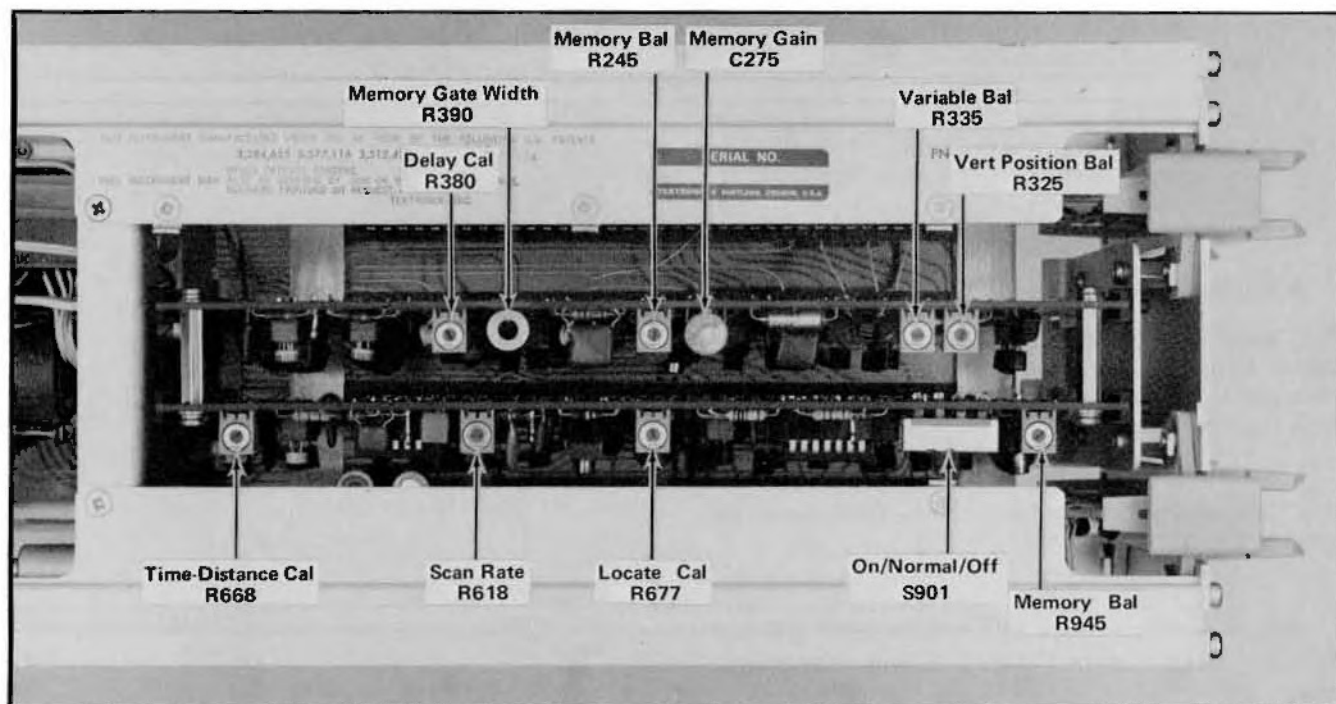
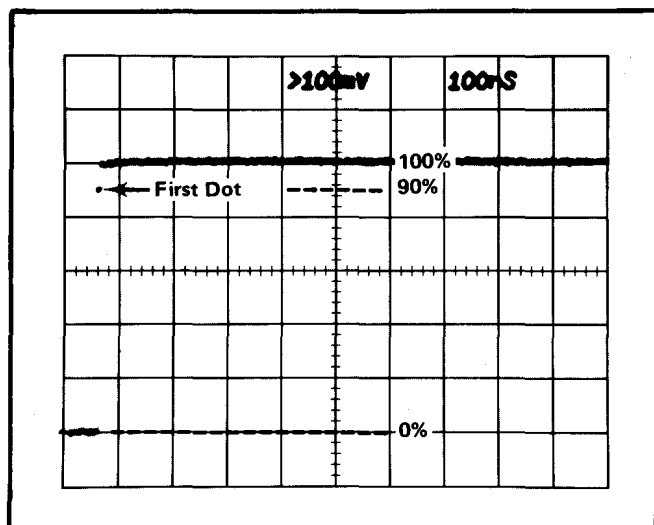
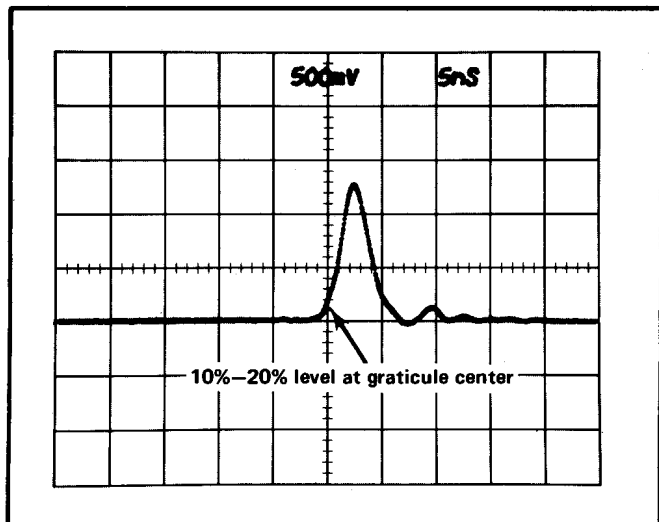

Fig. 5-11. Control locations on the Vertical and Horizontal cards.
Fig. 5-13. Waveform for Memory Gate Width control R390 and Memory Gain control C275 adjustments using a Sampling Head.
Fig. 5-14. Delay Calibrate control R380 adjustment waveform.
j. ADJUST the Memory Gain control C275 to obtain 1 V (5 div) separation of the two traces. See Fig. 5-11 for the control location.
h. ADJUST the Memory Gain control C275 to place the first dot above the 0% level at the 90% level (4.5 div above the 0% level). See Fig. 5-11 for the control location and Fig. 5-13 for the waveform.
g. ADJUST the Memory Balance control R245 to set the VERT SIG OUT at 0 V. See Fig. 5-11 for the control location.
graticule line 0). See Fig. 5-11 for the control location and Fig. 5-14 for the waveform.